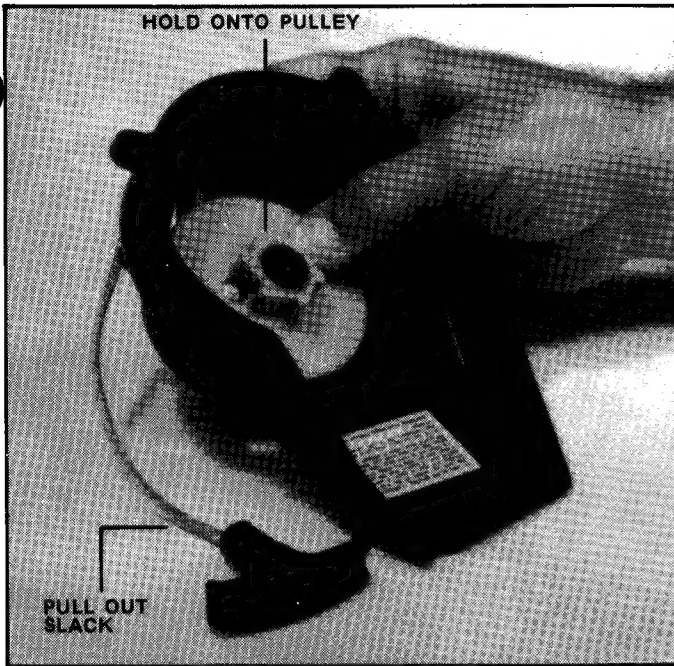

**FIGURE 7.1**
7.1 With the clutch assembly removed from the front of the engine (Ref. section 6) remove the four screws from the upper perimeter of the starter housing and the one screw from the lower center retaining the lower shroud extension. Set the lower shroud aside until final and re-assembly. See Figure 7.1.